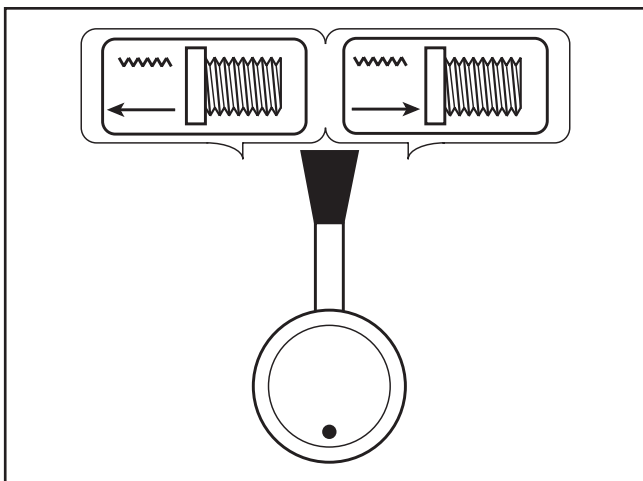

Figure 47. Feed direction selector.
2. Move the feed direction lever to the desired longitudinal feed setting indicated by the arrow above the screw thread. Cross feed directions are as follows: when the arrow points left, the cross feed is away from the spindle axis; when arrow points right, the cross feed is towards the spindle axis (see **Figure 47**).